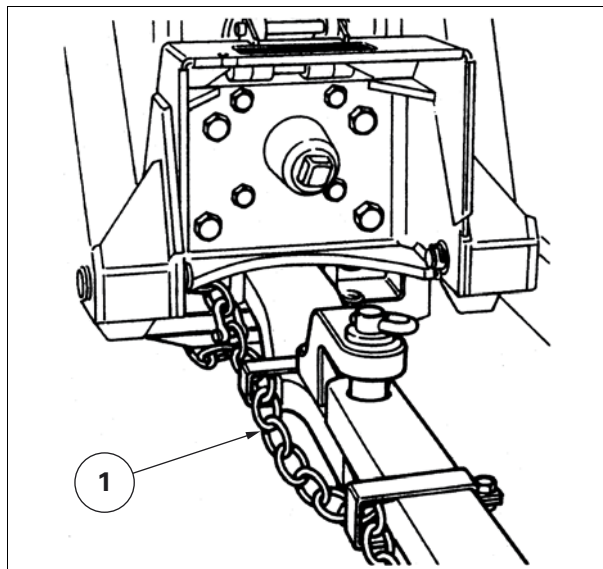

Fig. 10.
- All trailed implements and trailers should be connected to the tractor by a safety chain (1) *fig. 10*.